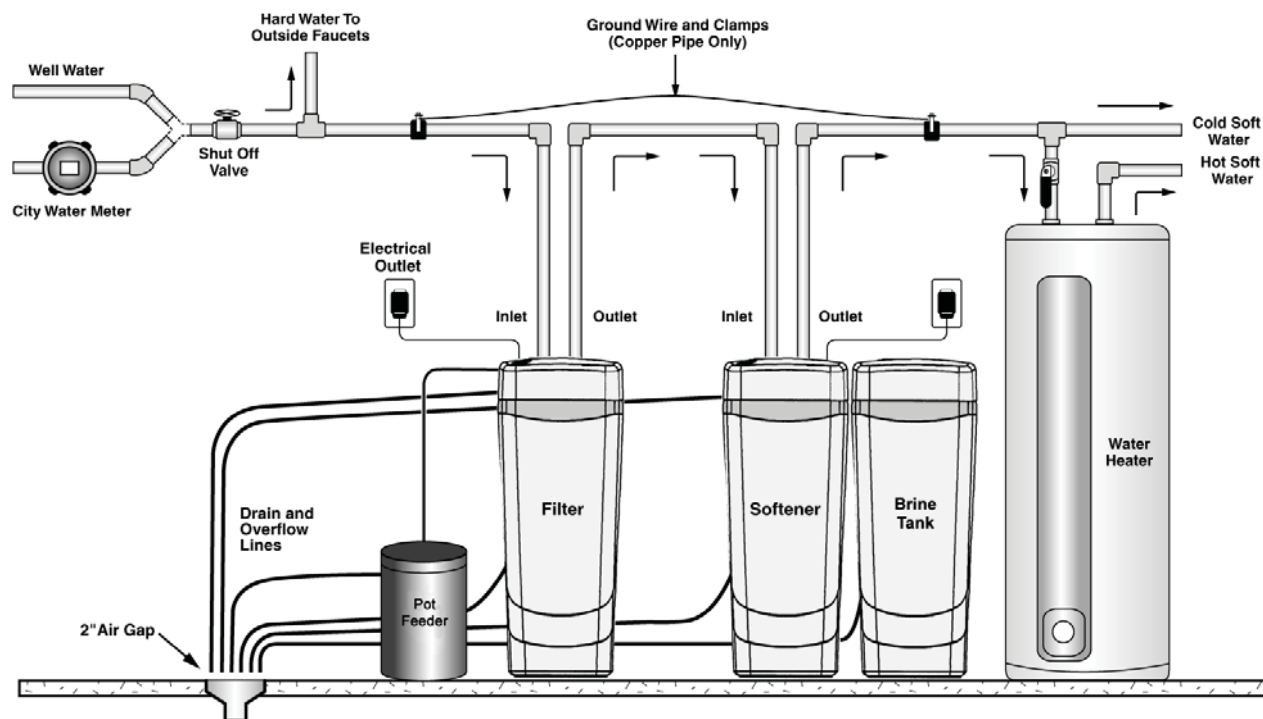

Figure 6: Iron Filter and Potassium Feeder Placement
Note: The iron filter should be installed after the pressure tank or water meter and before the water heater or any water softener appliance, unless otherwise recommended. See Figure 6. A minimum 3/4" pipe is required for proper function of the filter. Examine the inlet piping to make sure the pipe is not plugged with lime or iron. If the piping is plugged, it must be cleaned or replaced.
- C. See Figure 6 for feeder placement.